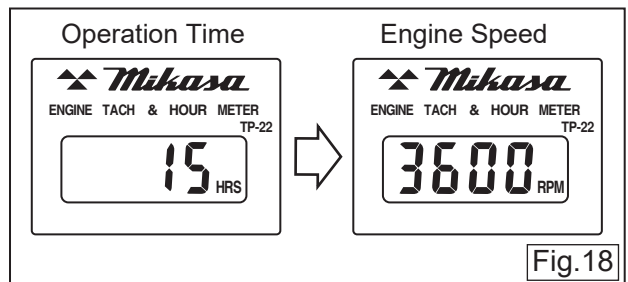

Fig.18
- 9 During operation, the hour tachometer is displaying "Engine Speed". (Fig.18)